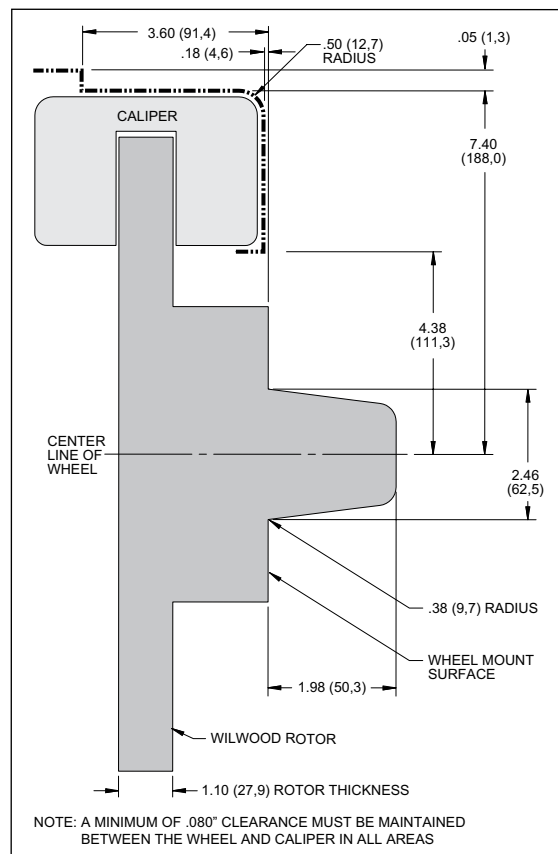

Figure 3. Wheel Clearance Diagram
- Review the wheel clearance diagram (Figure 3, page 4) to verify there is adequate clearance with the wheels you will be using with the installation.
- Verify your wheel clearance using Figure 3.